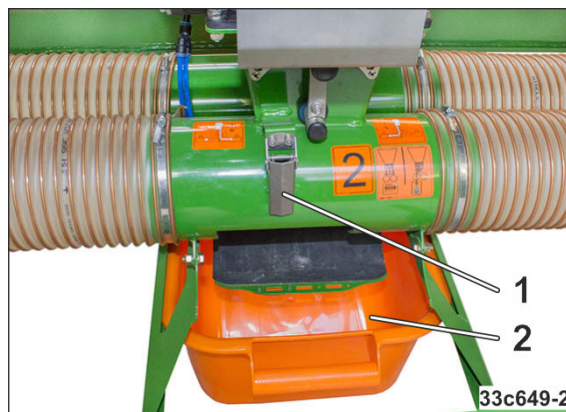

Fig. 238
3. Loosen both tensioning hooks (Fig. 238/1) and open the folding on both delivery tubes.
- The seed drops into the calibration trough (Fig. 238/2).